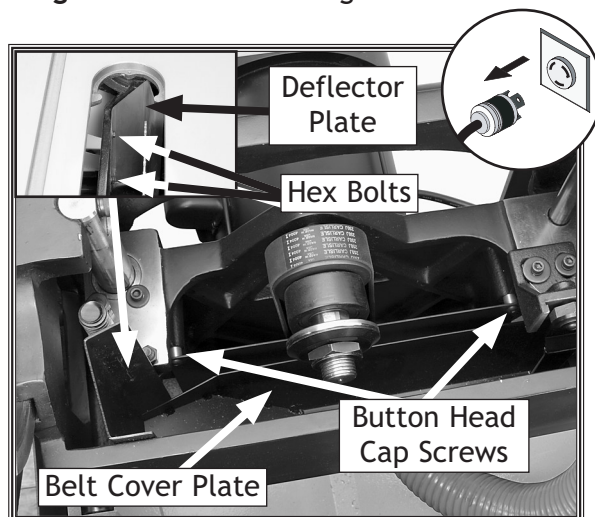

Figure 61. Belt cover plate and top button head cap screws (table removed for clarity).
8. Remove the deflector plate and the hex bolts and flat washers securing it (**Figure 61**), using a 10mm wrench.
9. Using a 4mm wrench, remove the upper two button head cap screws, and remove the spacers on the belt cover plate shown in **Figure 61**.